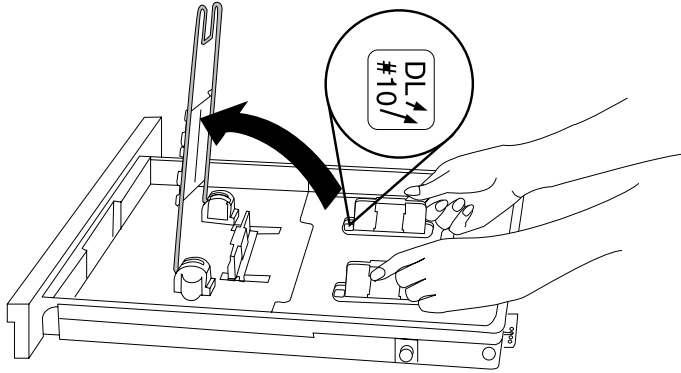

Fig. 8.5 Set the side stackers
2. On the envelope cassette, set the back and side envelope stackers (figs. 8.5 and 8.6) to the correct envelope size.